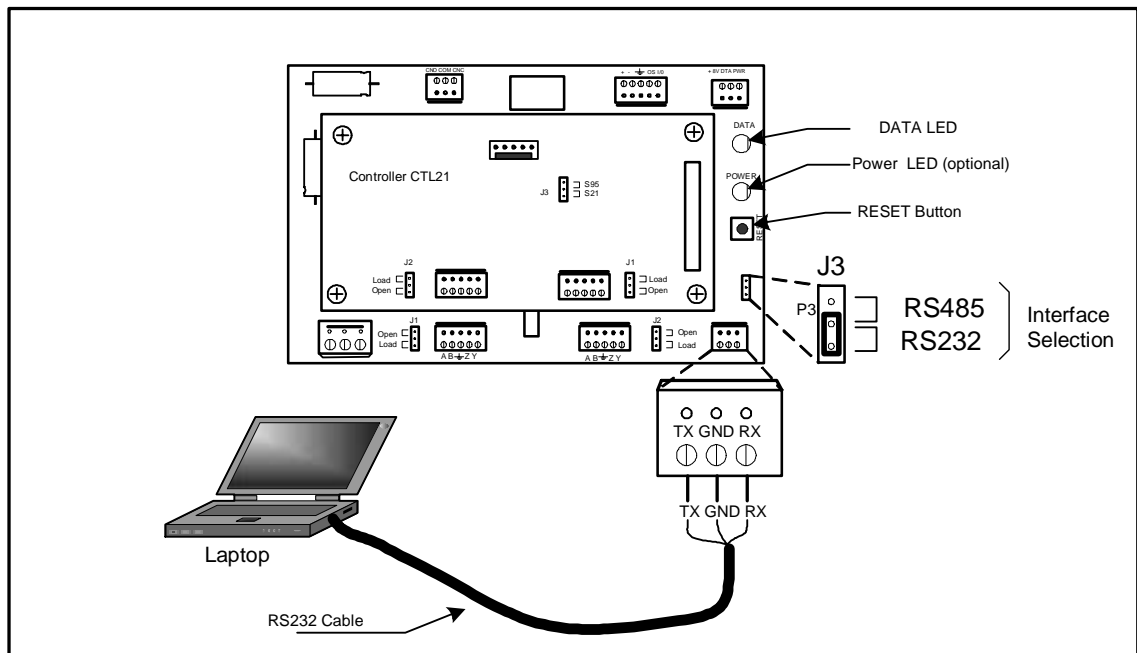

Figure 5-1: Connecting the Reader to a PC/Laptop using RS232 interface.
For the initial set-up, the connection with a local, mobile PC (Laptop) can be realized using an RS232 interface as shown in Figure 5-1 below.
2. Check whether the relay on the MBD21 board immediately clicks, and the POWER LED is on (See Figure 5-1).
To force the Reader into the *learning* mode, follow the steps below. (See Figure 5-1).
There are 2 ways to reset the Reader (see Figure 5-1):